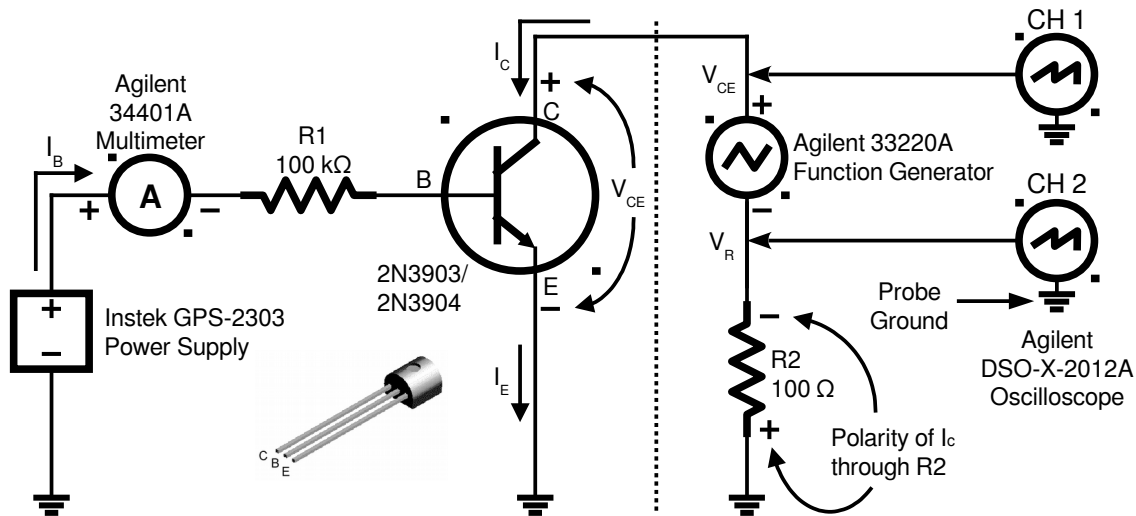

Figure 1. Oscilloscope Curve Tracer Schematic for NPN transistor
Normally an oscilloscope gives us a picture of voltage vs. time. It can also create a graph of voltage versus voltage using the X-Y mode. Using the circuit shown in figure 1 and the oscilloscope in XY mode, we can produce a current versus voltage graph on the screen. By capturing different graphs for different base currents (aka a family of curves), we can produce a display that looks like one from a curve tracer,
The Beta of a bipolar junction transistor is the ratio of the collector current to the base current. In the circuit in figure 1, there are two loops of current. The base loop ( $I_B$ ) is a DC current sourced by the power supply and its value is measured by the multimeter. The collector loop ( $I_C$ ) is an AC current sourced by the function generator. Its value is determined by measuring the voltage across R2 then calculating the current.
1. Construct the base-emitter loop portion of the circuit shown in Figure 1. This is the portion to the left of the dashed vertical line. Leave the collector open.
4. Construct the collector-emitter loop portion of the circuit shown in Figure 1. This is the portion to the right of the dashed vertical line.